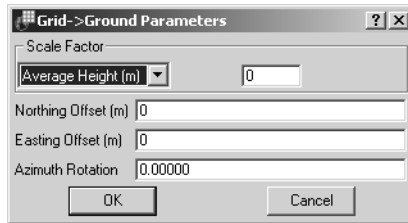

Figure 3-39. Grid->Ground Parameters Dialog Box
- On the **Grid->Ground Parameters** dialog box, enter the transformation parameters (Figure 3-39).